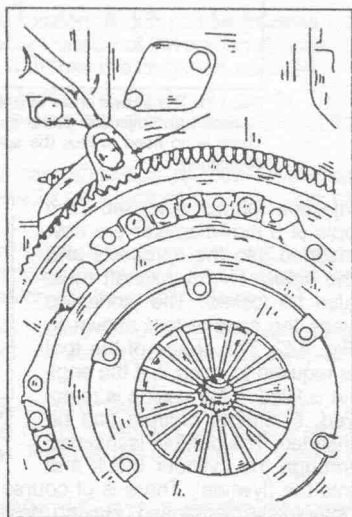

Fig. 1.10. — Locking the flywheel against rotation. Insert a toothed sector (arrow) into the starter ring gear teeth.
- On one side of the engine remove the inlet chamber. Remove the row of bolts on one side (3) and on the opposite side (2). Withdraw the complete housing from the cylinder head.
- Mark the position of the clutch plate in relation to the flywheel by punching two marks in the clutch and flywheel on opposite points. Unscrew the clutch and remove the driven plate. The flywheel should be counterheld by inserting a screwdriver into the flywheel teeth or by means of a toothed sector, as shown in Fig. 1.10.